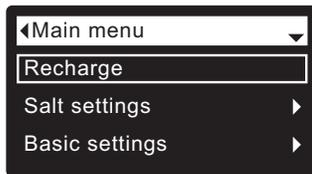

FIG. 29
During normal operation (status screens rolling), press the conditioner/refiner’s SELECT (O) button to display the Main menu (See Figure 29). This menu and its subsidiary screens are used to control these operations: